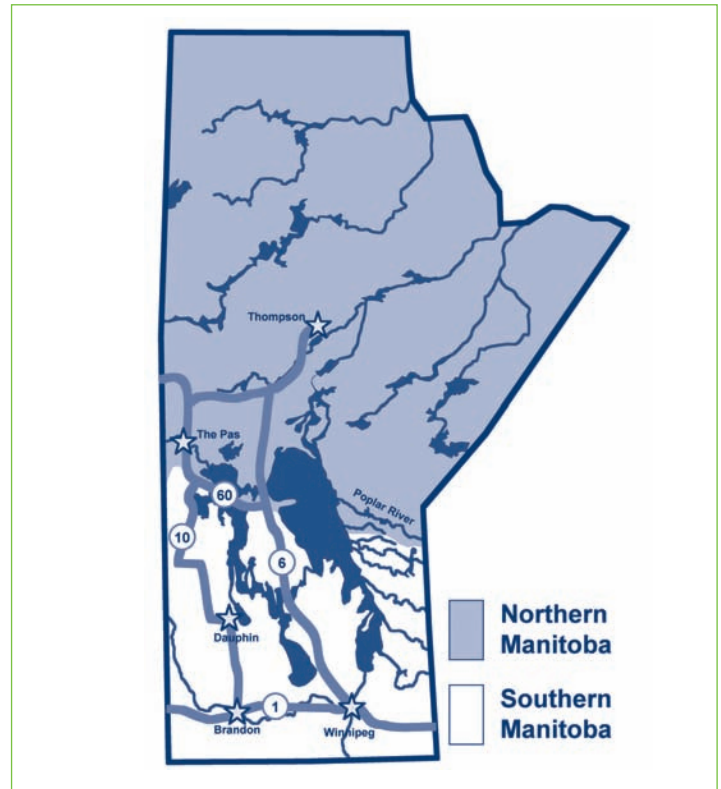

Figure 1:
3. Determine if the water body is located in Northern or Southern Manitoba according to Figure 1.